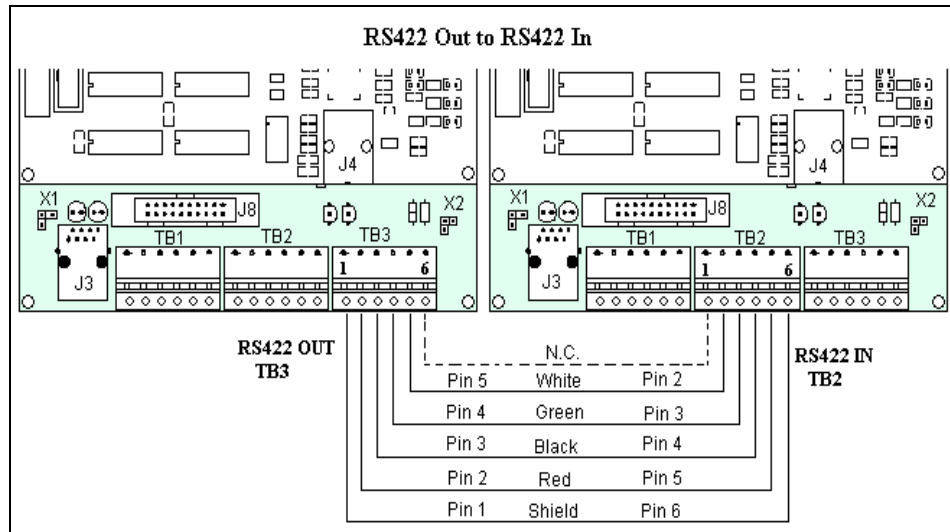

Figure 6: Interconnection from Primary to Primary
- d. In **Figure 6**, the signal connections between two controllers are shown.